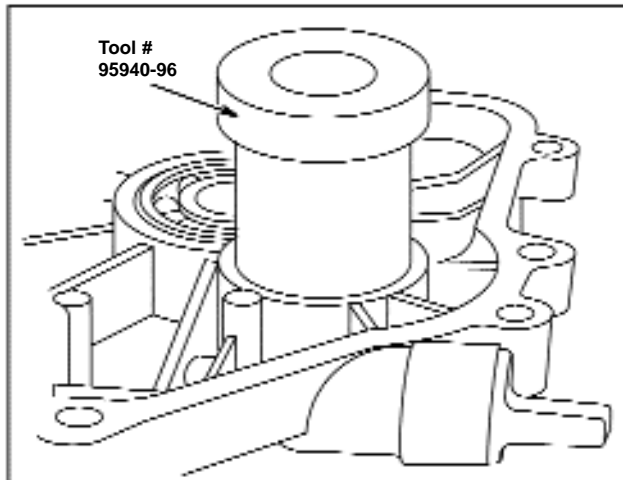

**Figure 141 - Removing Ball Bearing**
- While holding puller screw from turning, turn nut until ball bearing is free, Figure 141.